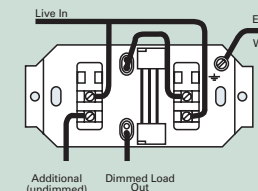

Figure 3 Installation:
- Note that additional circuits may be connected to the in-coming live and remain undimmed, as per figure 3 above.
Two Circuits: See Fig. 3.